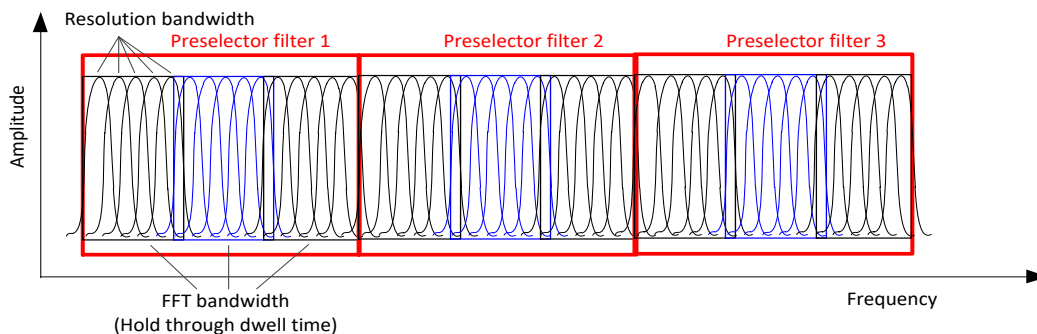

Figure 1. Time domain scan in frequency spectrum
An EMI receiver has multiple preselector filters on the radio frequency (RF) section to filter out any signals that do not appear on the screen. These filters are essential to prevent an overload condition when measuring an impulsive signal. In recent years, time-domain scan (TDS) has become more prevalent, replacing the conventional stepped scan analysis in many cases. A TDS scan involves multiple FFT acquisitions working on different preselector filters (see Figure 1). However, switching FFT acquisition on the preselector filters requires hardware settling. Therefore, these acquisitions have a time gap in between.